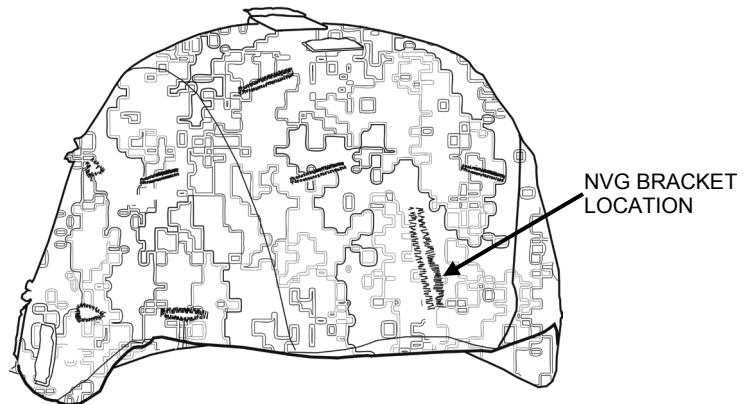

Figure 4. Non-Reversible Universal Camouflage Helmet Cover.
1. Orient the helmet cover with the NVG bracket location facing the front of the helmet (Figure 4).